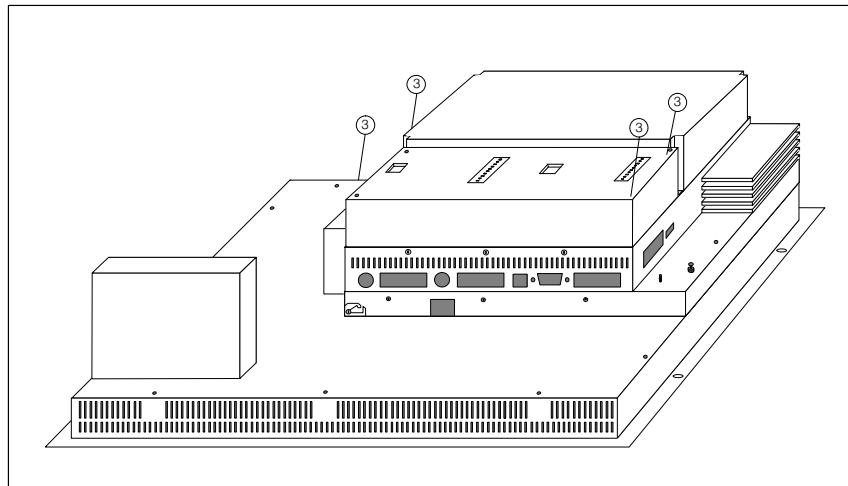

Figure 5-4 Fixing direct key module to OP
4. Fix direct key module to the OP using the four screws ③ supplied (see Figure 5-4).